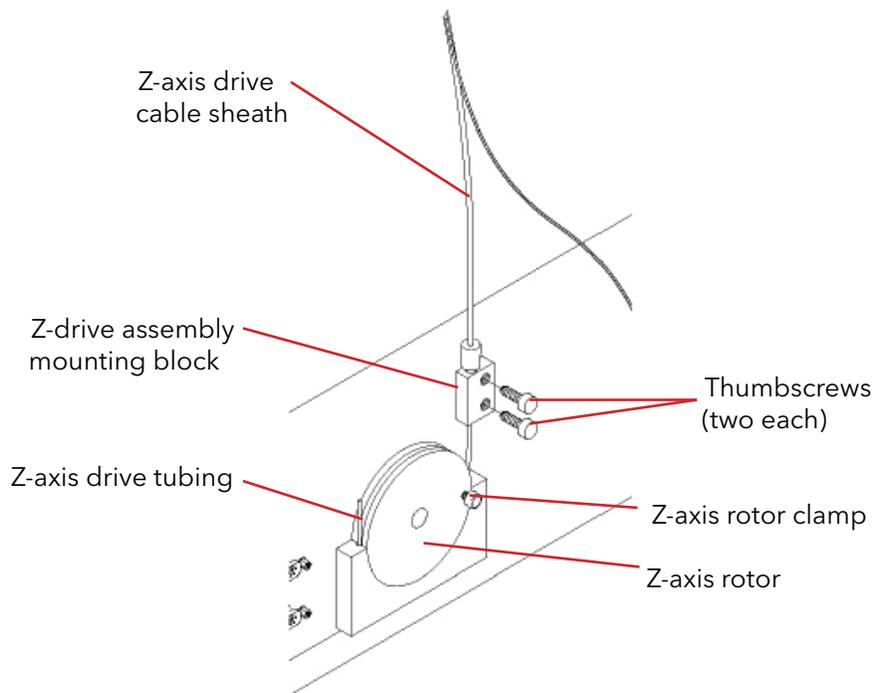

Figure 4.3. Autosampler Back View Showing the Z-Axis Rotor and Mounting Blocks
5. Loop the 1.5-mm O.D. PEEK® Z-axis drive tubing around the bottom of the Z-axis rotor groove (Figure 4.3).
2. Rotate the Z-axis rotor (Figure 4.3) clockwise so the rotor stop pin is against the rotor stop.